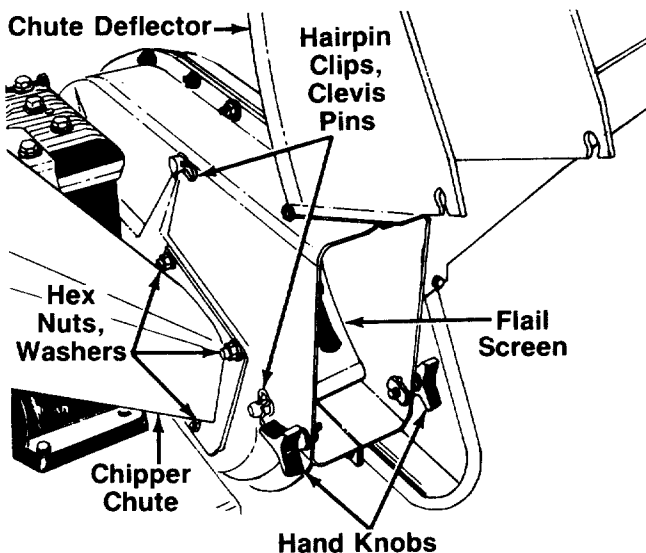

FIGURE 18.
- Remove two hairpin clips from the clevis pins which extend through the housing. Remove the clevis pins. Lift the flail screen from inside the housing. See figure 18.
**NOTE:** Be certain to reassemble the flail screen with the curved side down as shown in figure 18.
- Remove the chipper chute by removing three hex nuts and washers. A 1/2" wrench is required. See figure 18.